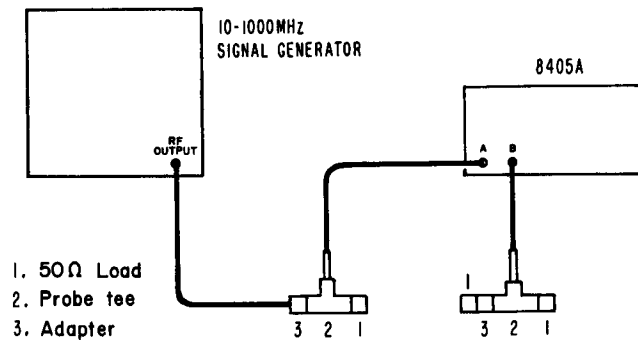

Figure 1. Channel Isolation Check
1. With signal source output at a minimum, connect equipment as shown in Figure 1.
1. Setup equipment as shown in Figure 1 and adjust signal source for 1 mV output.